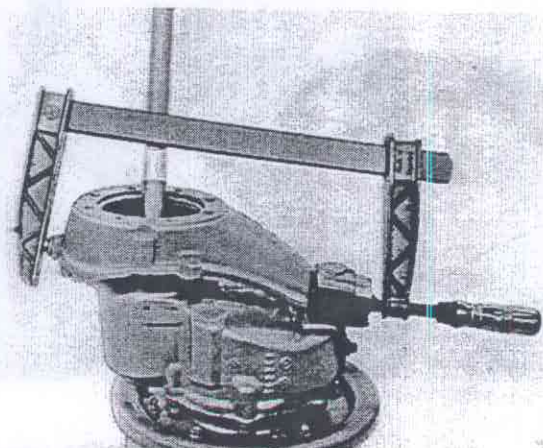

Fig. 63-10. Drawing together the steering pin assembly
4. Place a screw clamp over the steering knuckle according to Fig. 63-10. Tighten up the clamp well (approx. 1500 N = 150 kp = 330 lbf) so that the knuckle does not have any clearance.